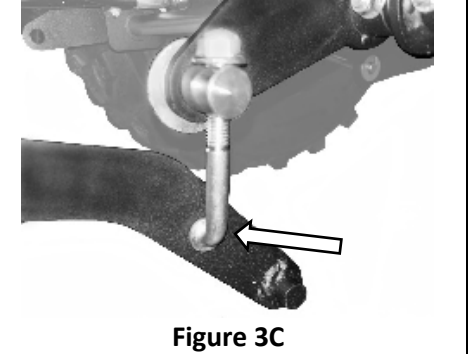

Figure 3C
3. Insert the L-Joint Pin into the appropriate hole on the rear portion of the Lift Bar as indicated in figure 3C. Secure with a cotter pin.